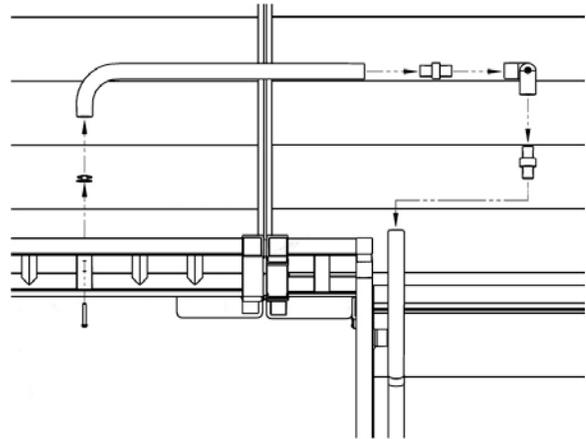

FIG. 21
- 5.2 For situations where the step guard is not adjacent to a ramp and is at 90° to a 5' platform, refer to steps 5.2.1 through 5.2.10 for returning the step handrail to the platform guard (FIG. 21).